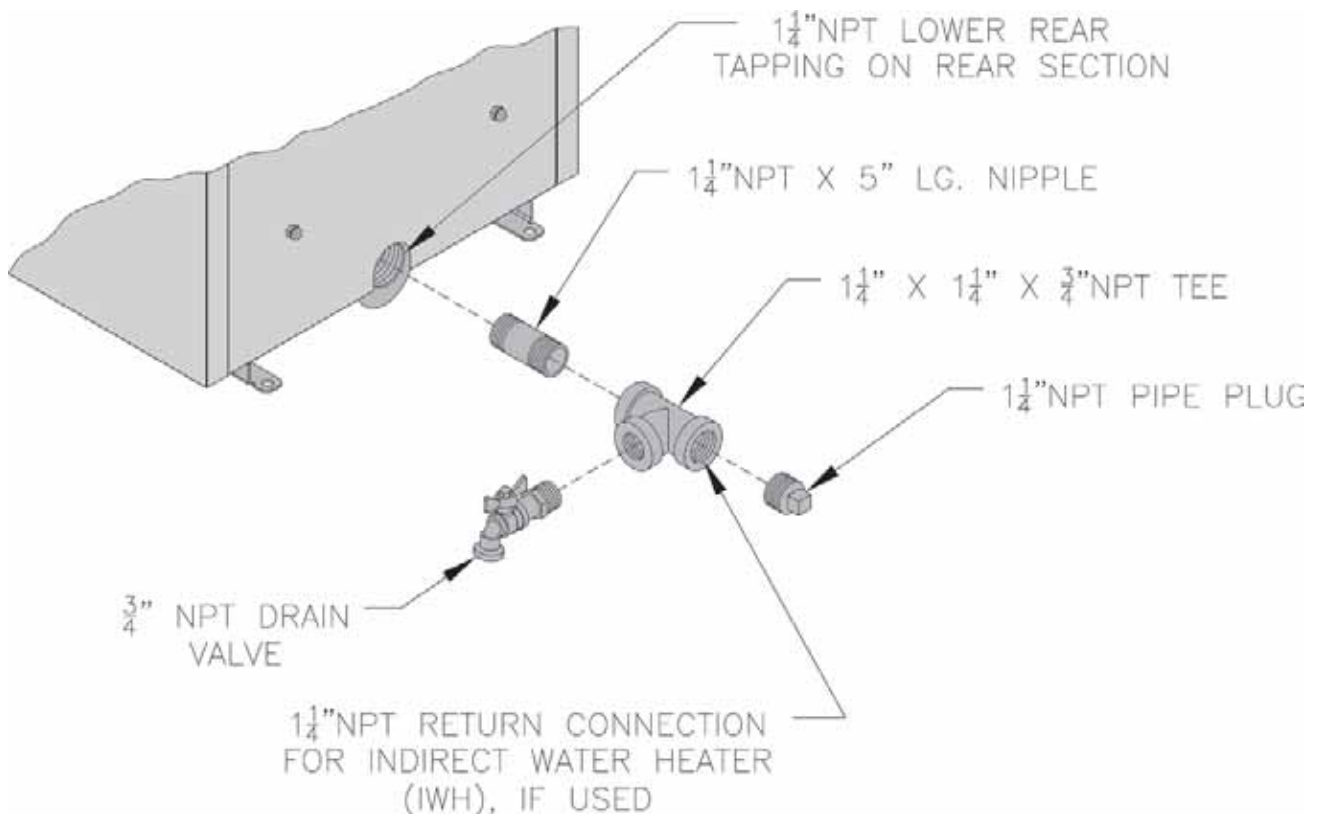

Figure 10: Piping Arrangement for Drain Valve and Indirect Water Heating Return
5. Install drain valve and indirect water heater return piping, see Figure 10.